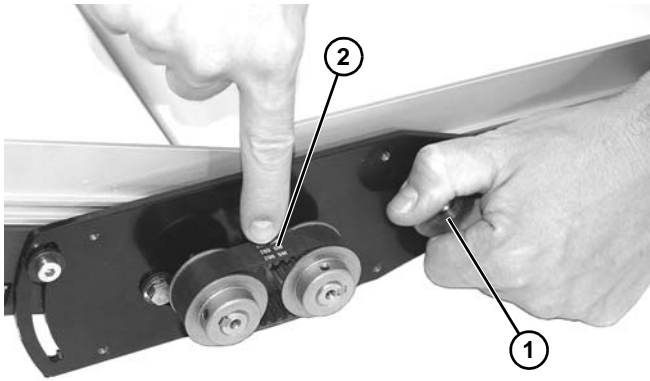

Figure 22
12. Rotate cam knob (Figure 22, item 1) to obtain 3-6 mm belt deflection at center of belt (Figure 22, item 2) with approximately 1360-2268 grams of force.